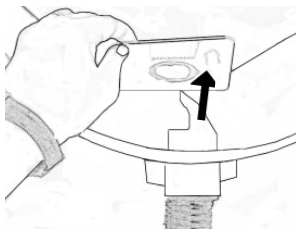

Fig. 24
5. Remove the dust bag by taking hold of the cardboard stiffener and carefully pulling out the card and bag from the container, Fig. 24. Fold down the perforated part of the cardboard towards the opening of the bag in order to prevent the bag contents to leak out.